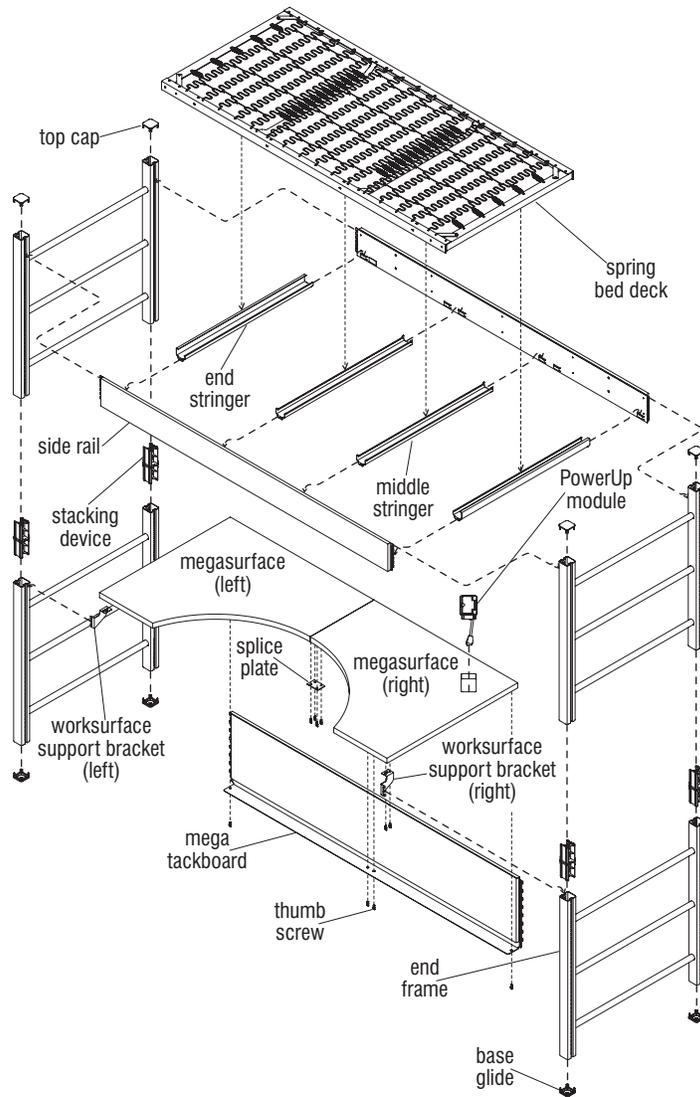

Figure 5 - Spring Deck Megasurface Loft Bed
2. Stand up both end frame sets and hang the mega tackboard between them at an appropriate height location (Figure 5).
3. Hang one end of a mega tackboard into one of the end frame pairs at the desired height. Apply outward pressure to the end frame pair at the other side, then engage the mega tackboard into that opposite end frame (Figure 5).
4. Hang one right and one left worksurface support bracket on the end frames opposite the mega tackboard. Make sure the top of the brackets are at the same height as the flange of the mega tackboard (Figure 5).
5. Carefully place the megasurface halves on top of the appropriate right and left worksurface support brackets and the bottom flange of the mega tackboard. Fasten the worksurface halves to the support brackets and flange with eight thumb screws from underneath (Figure 5).